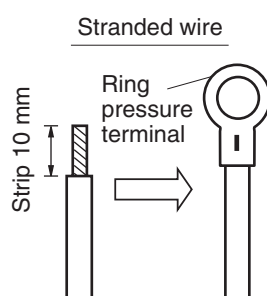
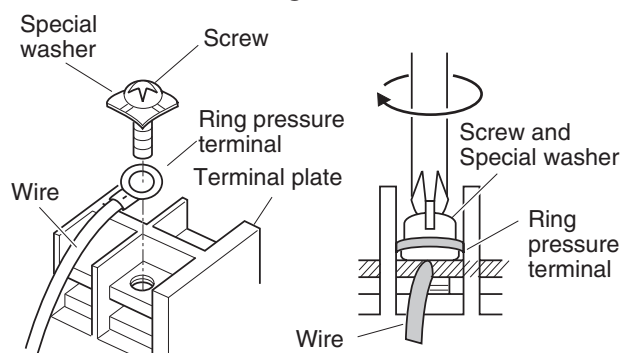

Fig. 2-6
Fig. 2-7
- (1) Cut the wire end with cutting pliers, then strip the insulation to expose the stranded wiring about 10 mm and tightly twist the wire ends. (Fig. 2-6)
- (2) Using a Phillips head screwdriver, remove the terminal screw(s) on the terminal plate.
- (3) Using a ring connector fastener or pliers, securely clamp each stripped wire end with a ring pressure terminal.
- (4) Place the ring pressure terminal, and replace and tighten the removed terminal screw using a screwdriver. (Fig. 2-7)